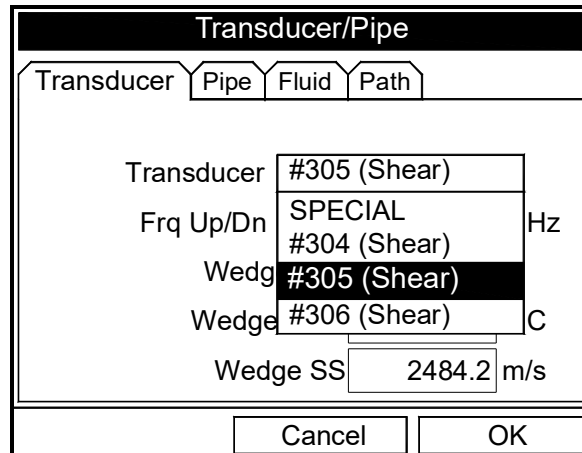

Figure 31: Transducer Type Options
2. A drop-down list of transducer numbers opens (see Figure 31 below). Press the [▼] or [▲] keys to scroll to the appropriate number, or scroll to “Special” for a special application transducer.